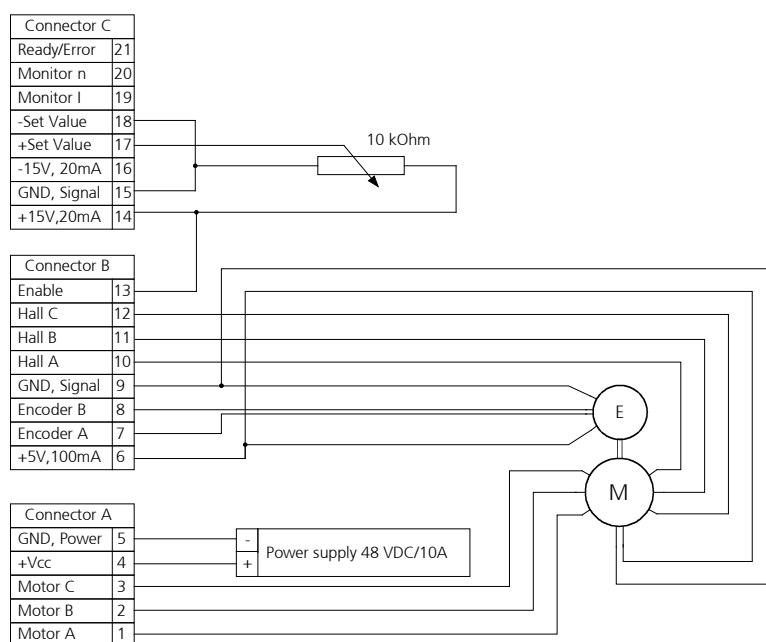

Figure 23
1. Connect the motor cables with the motor control unit (see Figure 23).